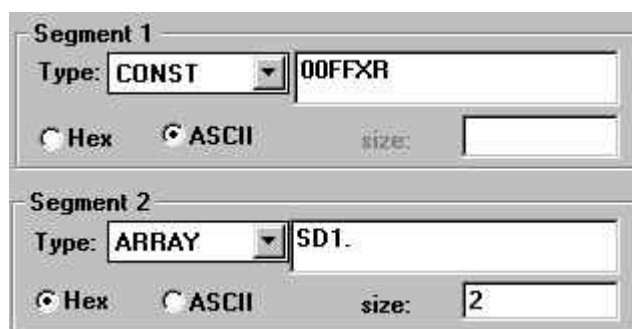

Fig. 6.7 An example of segment setting
- ⑤ Set a data to be sent according to segment. The data frame is divided by segment to distinguish fixed data area (Constant) and variable data area (Array). The required data of the segment set as array is inputted in the sequence program. The maximum size of constant segment is 30 bytes, and the array segment is 240 bytes in ASCII format. The following figure 6.7 shows an example of segment setting.